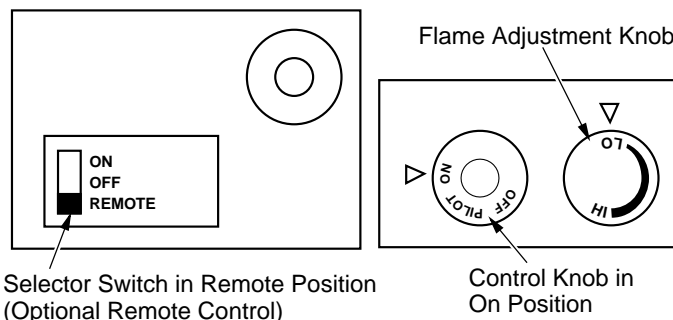

Figure 35 - Setting the Selector Switch, Control Knob, and Flame Adjustment Knob for Remote Operation
1. After lighting, let pilot flame burn for about one minute. Turn control knob to ON position. Adjust flame adjustment knob anywhere between HI and LO. Slide the selector switch to the REMOTE position (see Figure 35). **Note:** The burners may light if hand-held remote ON button was on when selector switch was last turned off. You can now turn the burners on and off with the hand-held remote control unit. **IMPORTANT:** Do not leave the selector switch in the REMOTE position when the pilot is not lit. This will drain the battery. **IMPORTANT:** Be sure to press the ON/OFF buttons on the hand-held remote control unit for up to 3 seconds to assure proper operation.